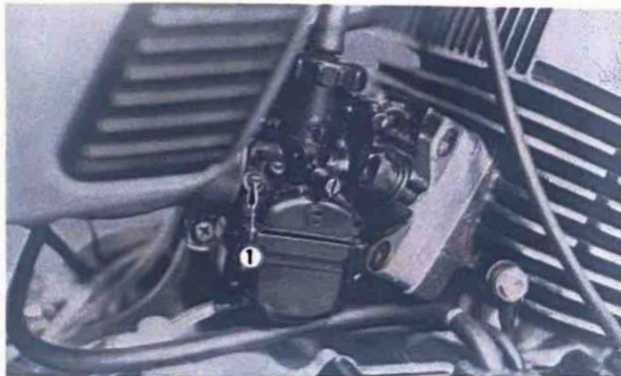

Fig. 49
2. Idling speed adjustment (Figs. 49, 50)